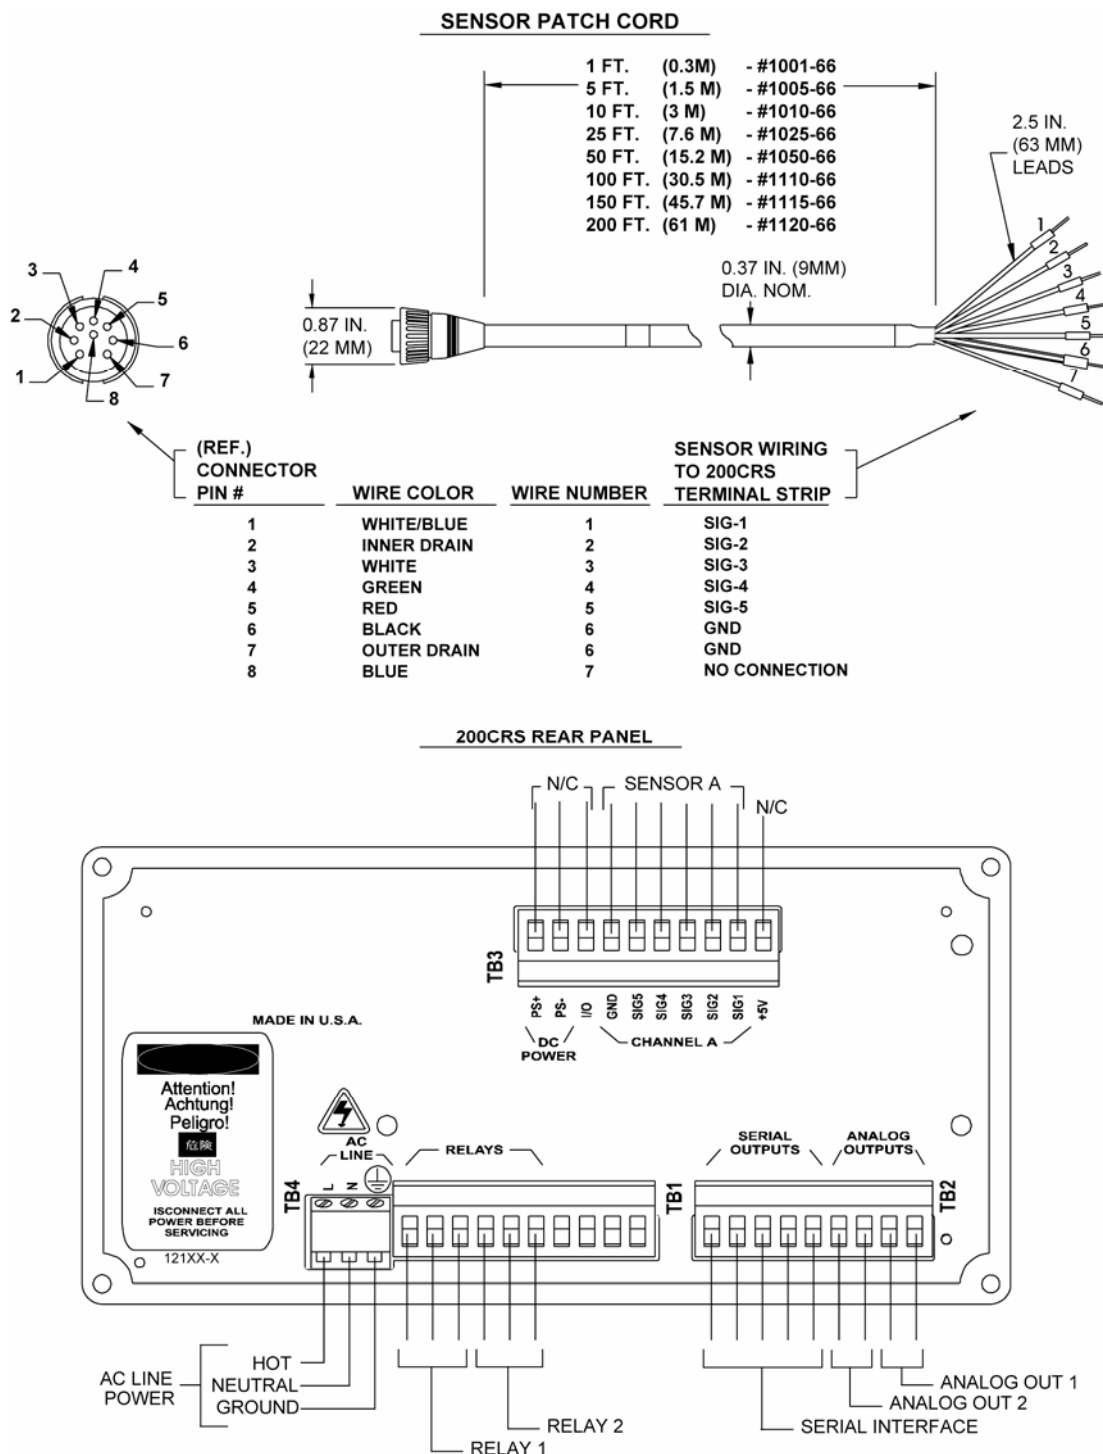

Figure 14.10: 200CRS Rear Panel Wiring & Patch Cords – see Chapter 2 for special wiring to measure ultrapure water in plastic pipe.
10. Wire the cable to the 200CRS as indicated. See Figure 14.10.